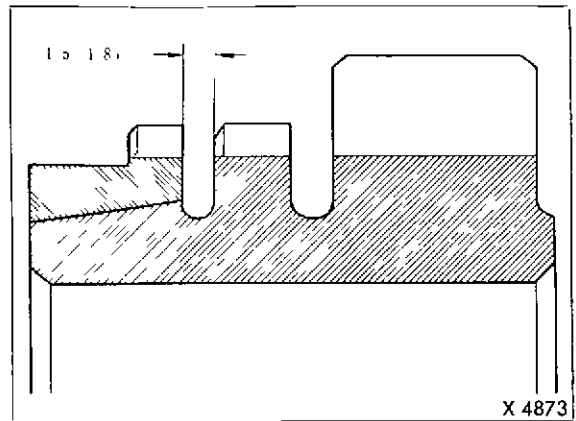

Fig. 3 38. Measuring the clearance of synchronizer ring
- F Synchronizer Rings** Inspect the synchronizer ring for broken, cracked, or otherwise damaged lugs. Engage a ring onto the main drive gear or second speed gear and measure the clearance as shown in the figure (Fig. 3 38).